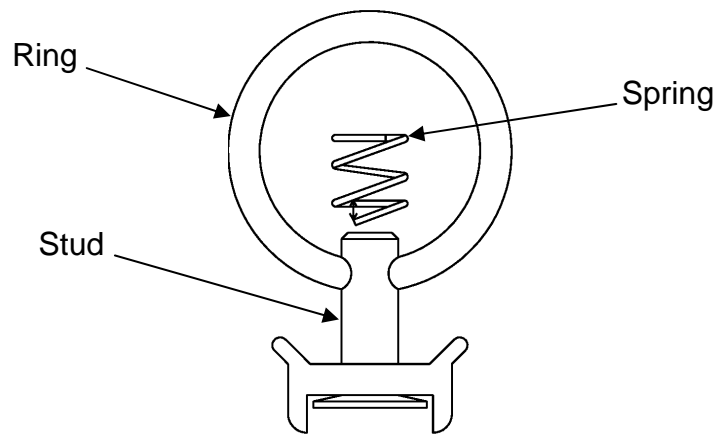

Figure 1
- (ii) Pull open the lower end of the spring and then rotate the spring around the stud and under the ring, see Figures 1 and 2.